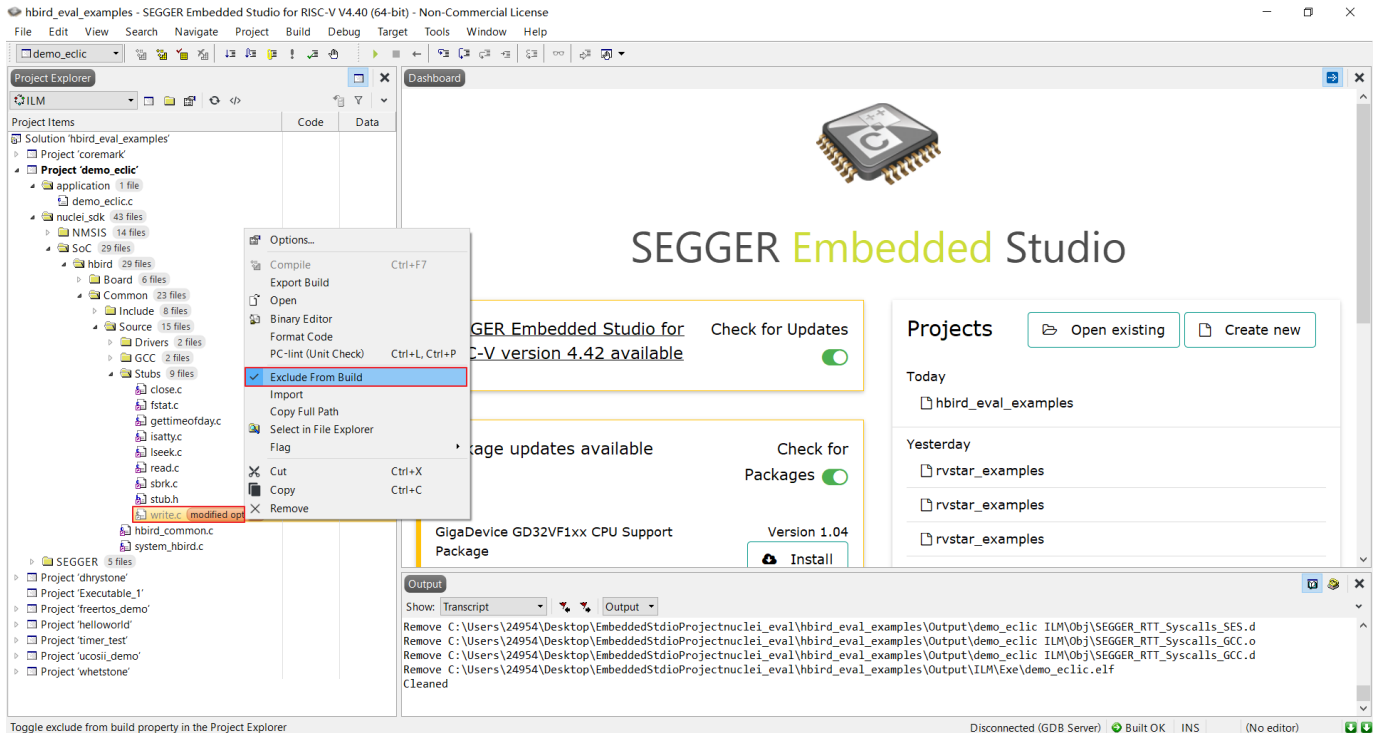

Figure 4-15 Redirect Output through RTT
- Drag the SEGGER folder to the current project, right-click the red-box marked file in Figure 4-15, open the right-click menu, select “Excluded From Build” option.